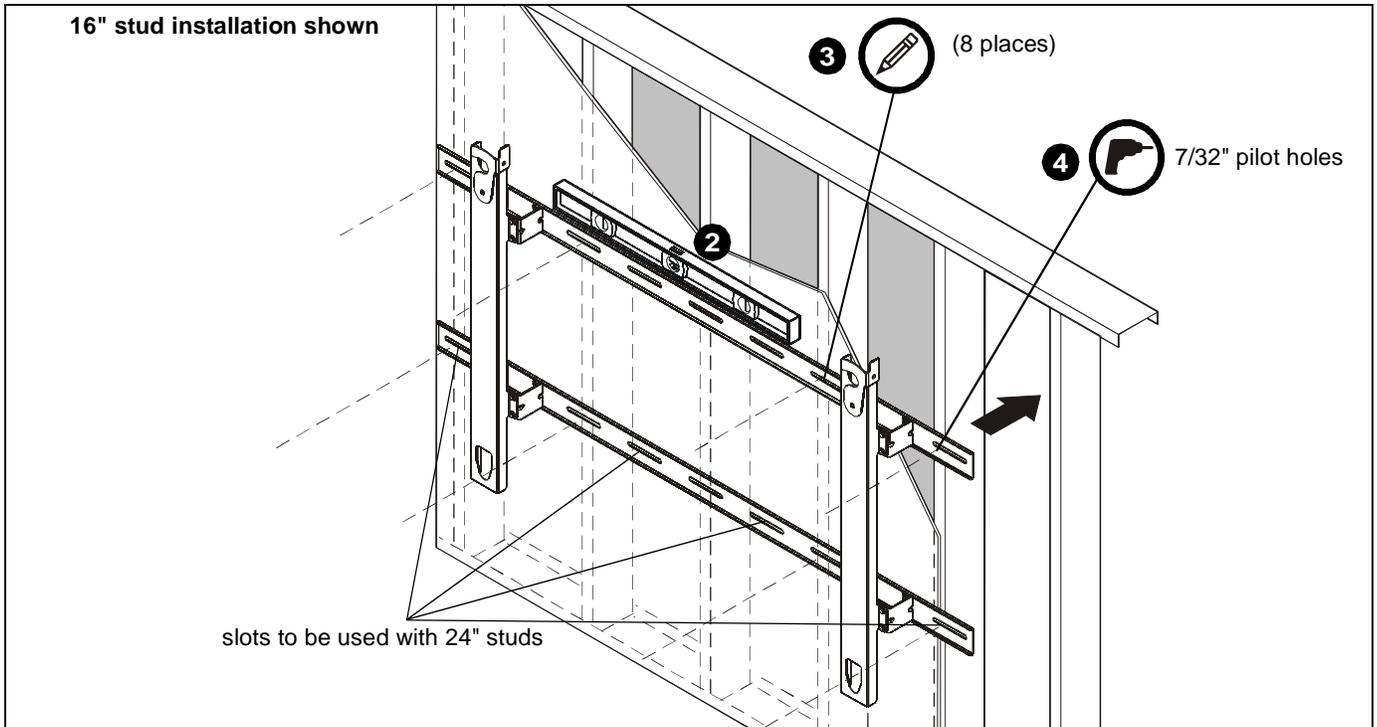

Figure 3
1. Using appropriate lifting device, raise assembled mount and place mount against wall in desired installation location. (See Figure 3)
2. Level and adjust horizontal position making certain that required mounting slots in upper and lower horizontal brackets on mount are properly positioned over studs. (See Figure 3)
3. Using a pencil, or similar marking tool, mark the location of mounting holes in mount onto surface. (See Figure 3)
NOTE: Figures 3 and 4 show the slots to be used if mounting to 16" studs. If mounting 24" studs, the inner slots need to be used instead. See Figure 3 for details.